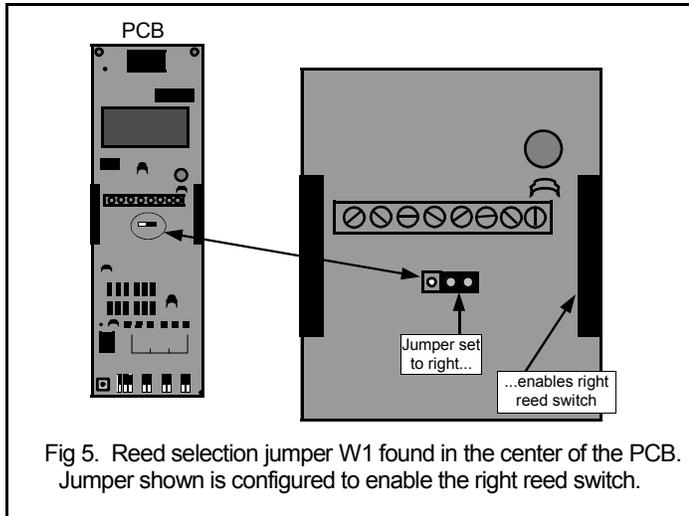

Fig 5. Reed selection jumper W1 found in the center of the PCB. Jumper shown is configured to enable the right reed switch.
2. Reed selection jumper W1 is located in the center of the PCB. The jumper should be set to the side of the unit that will have the magnet installed. (See Figure 5 below).
1. Referring to the Figure 5 at right,
3. Install the Magnetic Actuator (Part #P0290) so that it is centered between the two marks on the Housing Cover sticker, the template, or created during Magnet Alignment Mode. Mark holes, use a 1/8" (0.125") bit, and drill the hole 1" deep. Use the two supplied #8 sheet-metal screws (1"). **Note:** On steel frames, it is sometimes necessary to install a non-magnetic shim or spacer between the magnetic actuator and the frame. This is to prevent the steel frame from absorbing the magnet's magnetic field, which could cause a constant or occasional false alarm condition, and to correct for height differences between the door and the doorjamb. Use the enclosed spacers or construct a shim 1/2" x 2 1/2" x 1/8" from thick non-magnetic material such as plastic, bakelite or rubber. **Note:** The reed selection jumper W1 should be set to the side of the unit that will have the magnet installed (see Figure 5). After the Magnetic Actuator has been aligned and mounted, the Tamper Screw may be installed. This will place the unit in its normal "Standby Mode", ready for use.